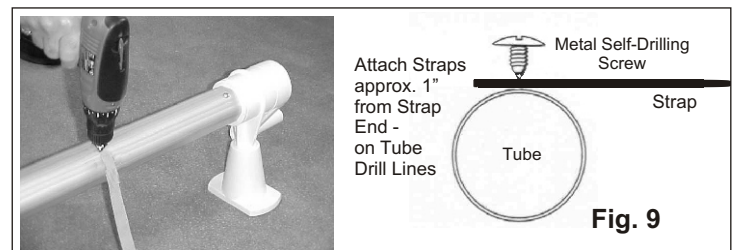

Fig. 9
- Mark each End Tube 6" (15 cm) in from the inside edge of pool top rail. Attach one Strap at each mark on a Drill Line (see Fig. 9). The remainder of the Straps will be spaced evenly - on Drill Lines - between the outside 2 Straps. Mark all strap locations before installing. Use all Straps provided. Note: Maximum distance between straps is 30"
- Attach Straps to Tubes at the marks with a Metal Screw directly through the strap material and approximately 1" back from the end of the strap (see Fig. 9). **DO NOT pre-drill holes or over-tighten screw.**